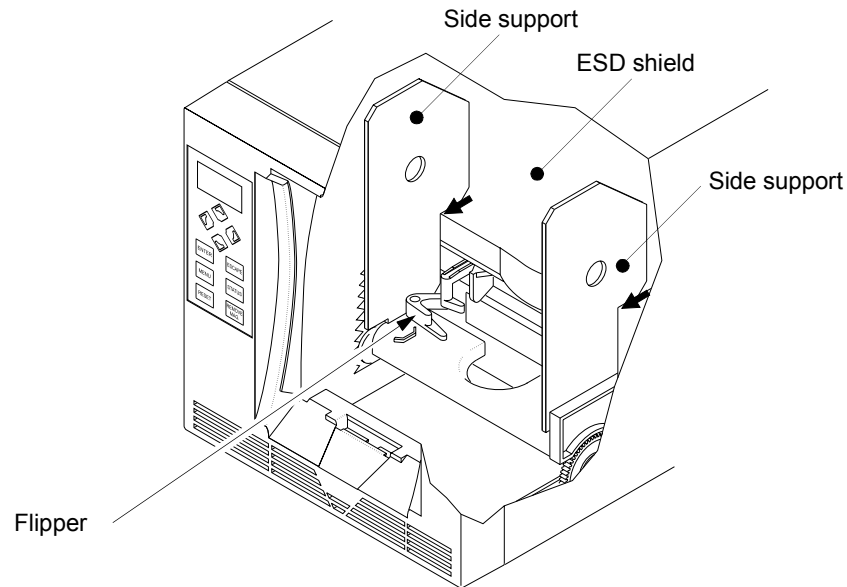

Figure 7-4 Inserting the side supports
7. Angle one side support in through the front of the autoloader and place it between the side of the autoloader and the flipper. Be sure to push the side supports all the way in so they rest on the ESD shield (see Figure 7-4).